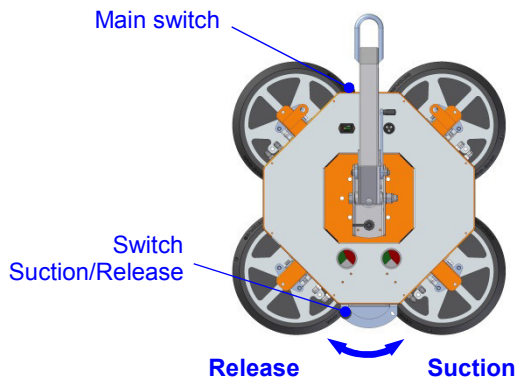

Fig. 10: Control panel
The OKTOPUS® GLASS-Jack GL-RN 400/600/800 is operated by a control panel according to fig. 10.
- ⇒ Slightly lift the switch SUCTION / RELEASE and push it towards SUCTION (see fig. 10) until it snaps into place.